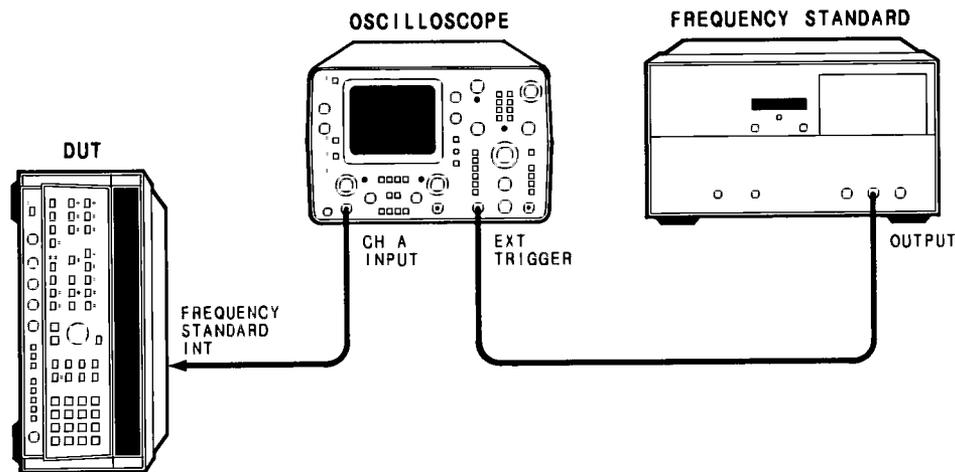

Figure 5-3. 10 MHz Standard Adjustment Setup
- 1 Connect equipment as shown in Figure 5-3 as follows: